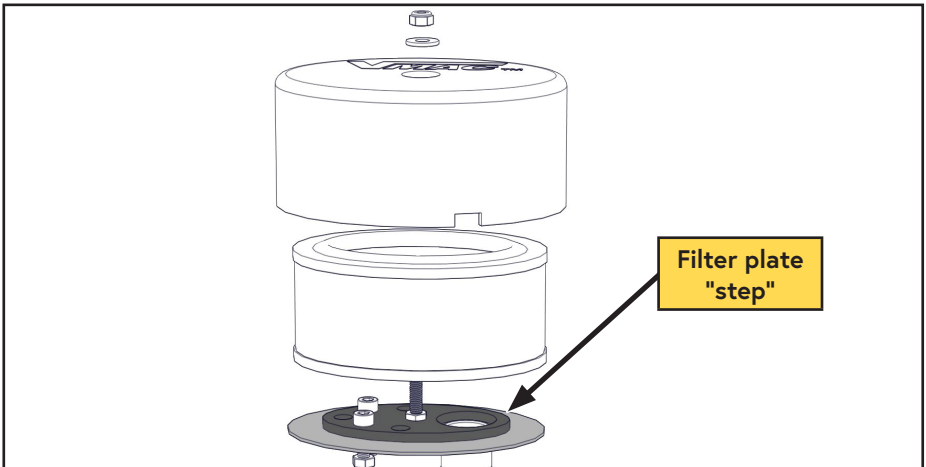

Figure 26 — Install air filter element
- Ensure the filter element fits over the "step" on the filter plate (Figure 26).